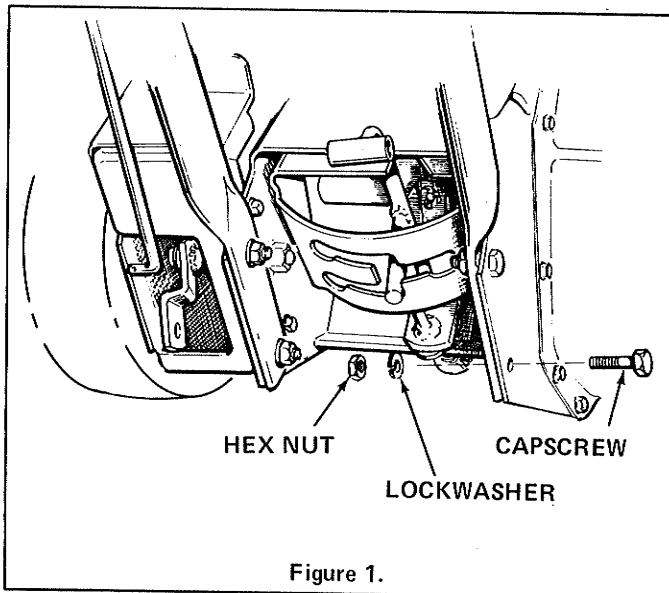

Figure 1.
1. See Figure 1. Attach handle assemblies to frame assembly with four hex capscrews, lockwashers and hex nuts.